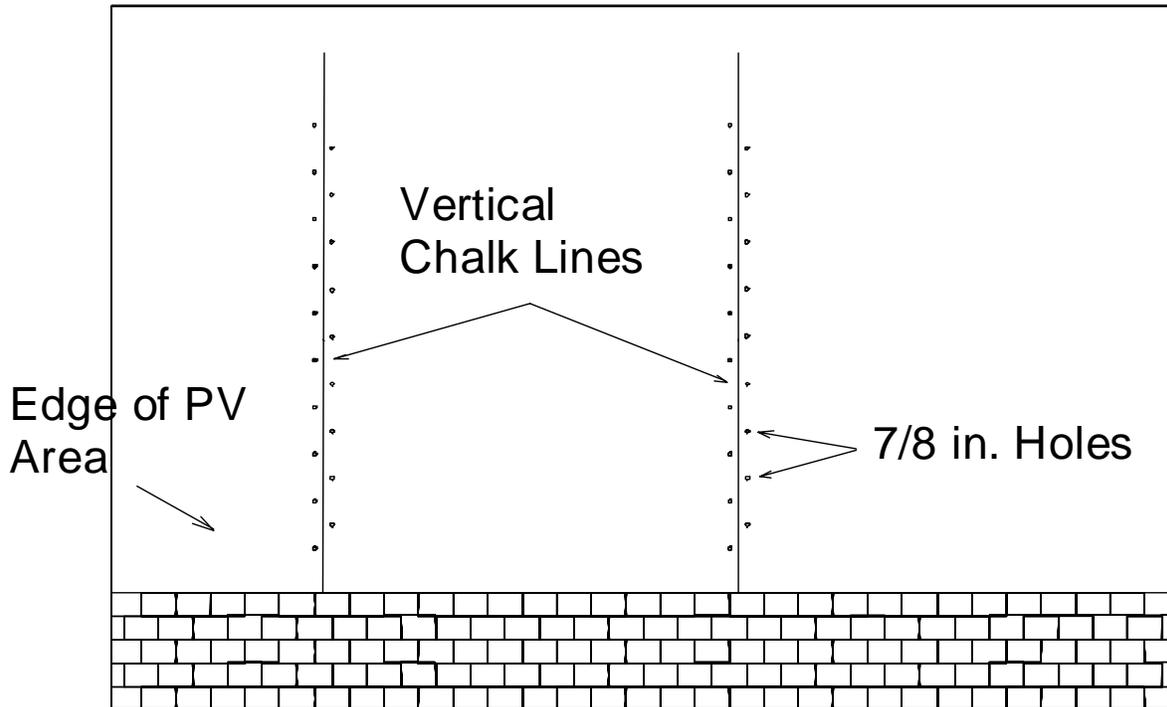

Figure 9
2.9.1 Layout and install the first asphalt shingles up to the horizontal chalk line as shown in figure 9.